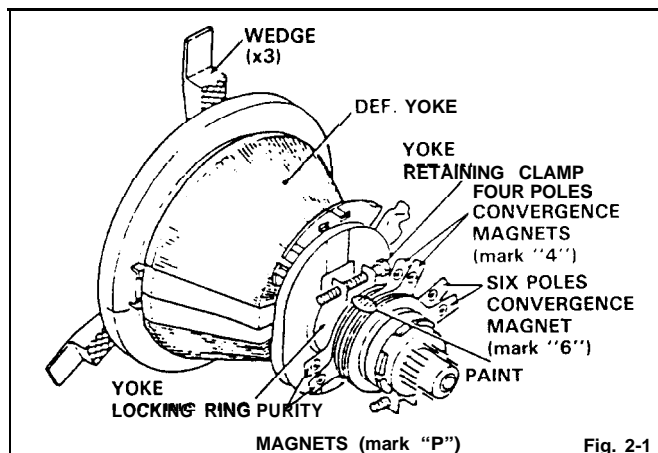

Fig. 2-1
Loosen yoke retaining clamp (Fig. 2-1). With a sharp knife, cut between the picture tube and the wedge. Remove wedges completely and clean off dried adhesive from the picture tube. PAINT is used to lock the tabs of the purity/convergence magnet assembly in place (Fig. 2-1). The paint must be removed with the end of a screwdriver before any adjustments are attempted.
9. Insert three wedges to the positions as shown in Fig. 2-1 2 to obtain the best circumference convergence.